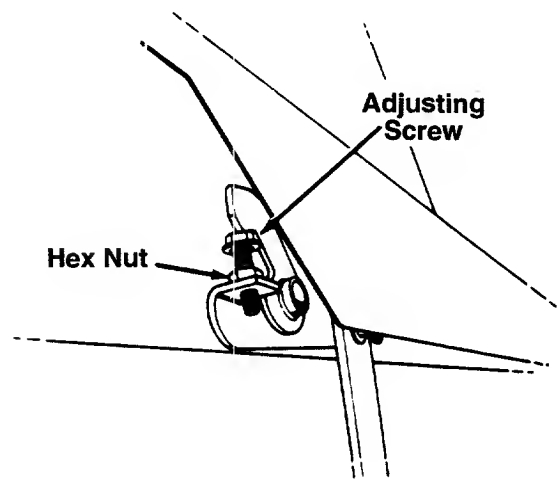

FIGURE 9.
3. If adjustment is needed, loosen the hex nut on the adjusting screw, located under the right side of the frame. See figure 9. Move the adjusting screw inward to lower the right side of the deck, or outward to raise the right side of the deck.